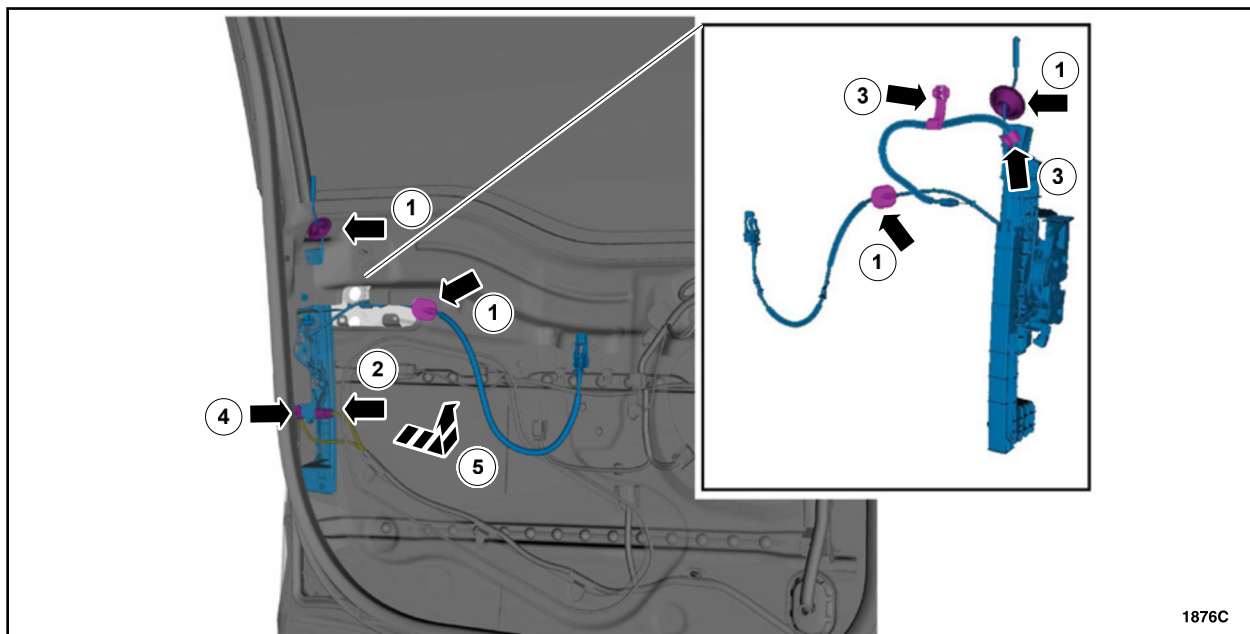

FIGURE 9
11. Remove the front door latch. See Figure 9.
22. Install the front door latch. See Figure 9.